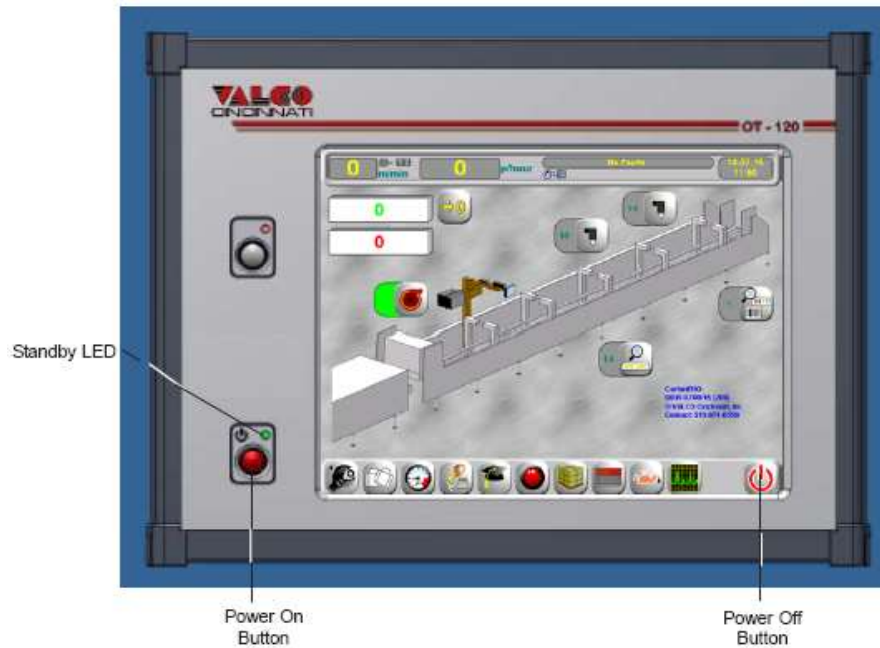

Figure 5-1. Turn on the OT-120 Unit
1. Press the Power On Button on the bottom left of the OT-120 (see Figure 5-1).
4. The Standby LED on the OT-120 Control will turn orange as the unit warms up (see Figure 5-1).
5. The Standby LED on the OT-120 Control will turn green when the unit is at full power (see Figure 5-1).
1. Press the Power Off Button on the bottom right of the OT-120 screen (see Figure 5-1).
3. Wait until the standby LED on the OT-120 Control turns orange as the unit powers down (see Figure 5-1).